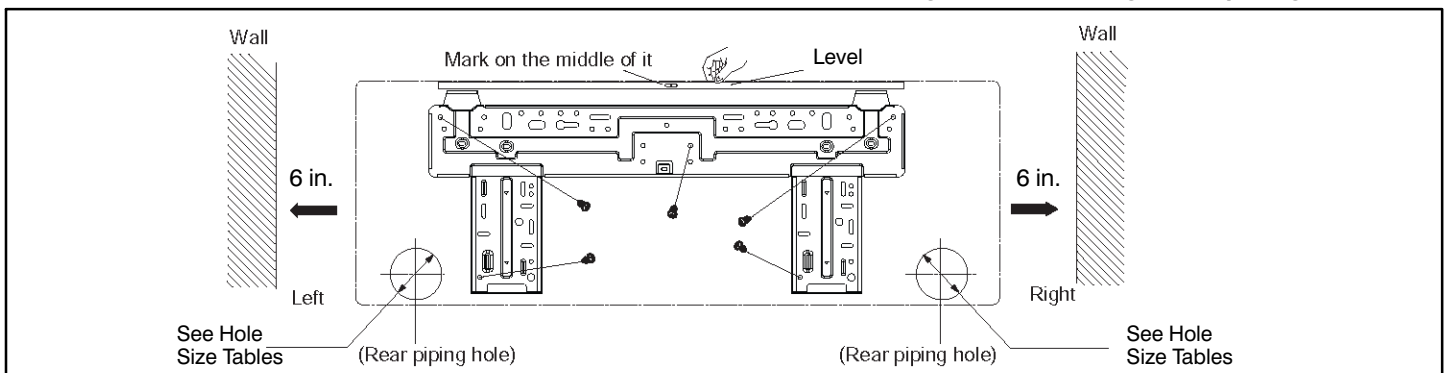

Figure 3 – Install Mounting Plate
2. The mounting plate should be located horizontally and level on the wall. All minimum spacings shown in Figure 1 through Figure 3 should be maintained.